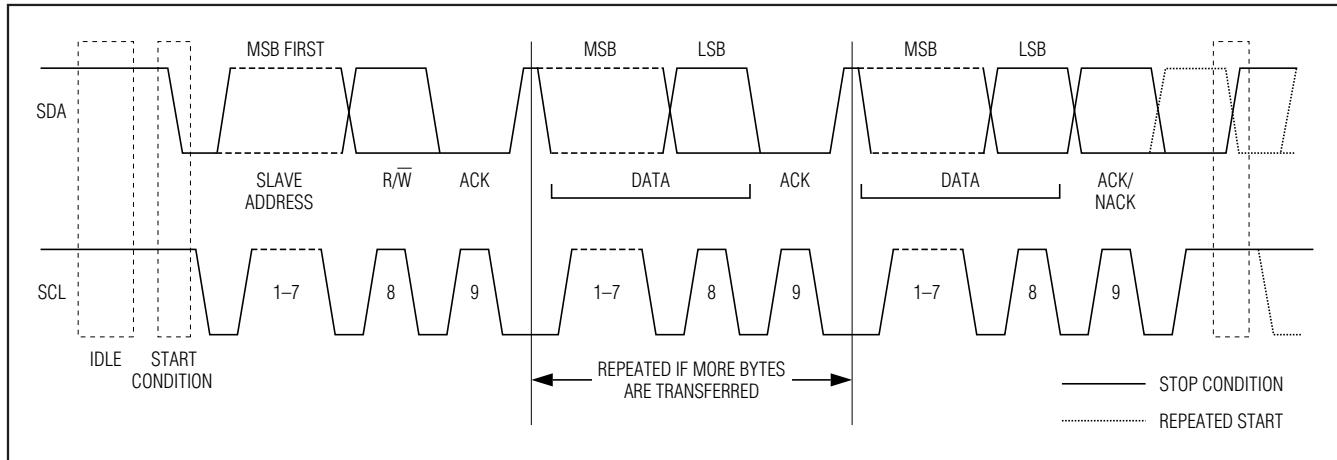
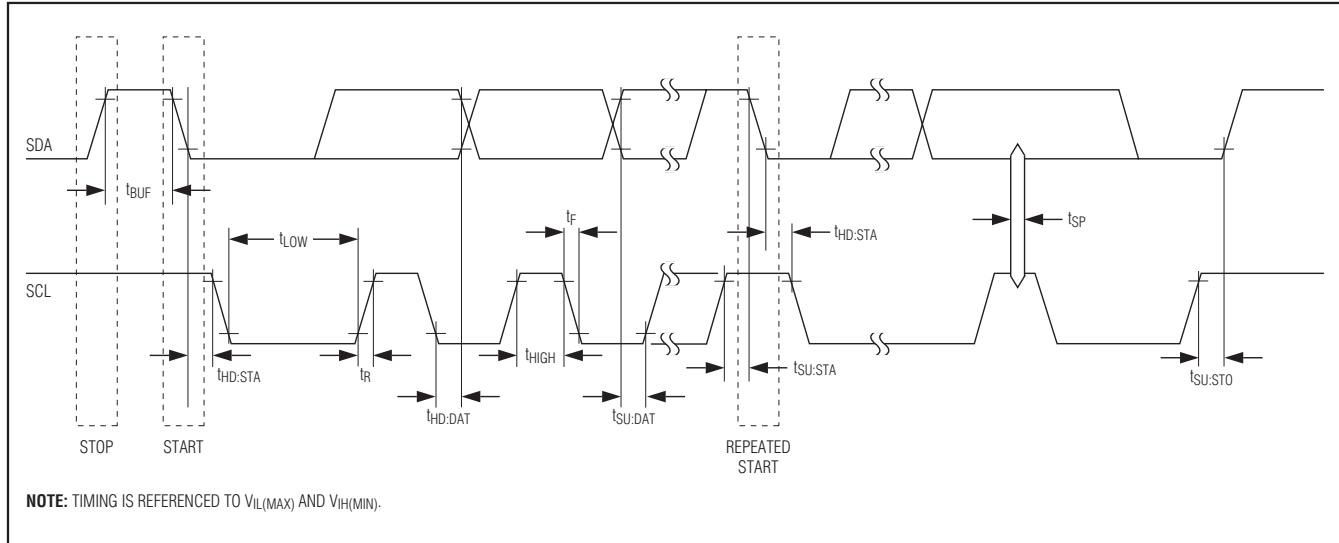

Figure 2. I2C/SMBus Protocol Overview
Figure 3. I2C/SMBus Timing Diagram
**Note 10:** See Figure 3.
Data transfers can be initiated only when the bus is not busy. The master generates the SCL, controls the bus access, generates the START and STOP conditions, and determines the number of bytes transferred on the SDA line between START and STOP. Data is transferred in bytes with the most significant bit being transmitted first. After each byte, an acknowledge bit follows to allow synchronization between master and slave. During any data transfer, SDA must remain stable whenever the clock line is high. Changes in the SDA line while SCL is high are interpreted as a START or a STOP. The protocol is illustrated in Figure 2. See Figure 3 for detailed timing references.
With the exception of the START and STOP condition, transitions of SDA can occur only during the low state of SCL. The data on SDA must remain valid and unchanged during the entire high pulse of SCL plus the required setup and hold time ( $t_{HD}:DAT$  after the falling edge of SCL and  $t_{SU}:DAT$  before the rising edge of SCL; see Figure 3). There is one clock pulse per bit of data. Data is shifted into the receiving device during the rising edge of the SCL pulse.
When finished with writing, the master must release the SDA line for a sufficient amount of setup time (minimum  $t_{SU}:DAT + t_R$  in Figure 3) before the next rising edge of SCL to start reading. The slave shifts out each data bit on SDA at the falling edge of the previous SCL pulse and the data bit is valid at the rising edge of the current SCL pulse. The master generates all SCL clock pulses, including those needed to read from a slave.